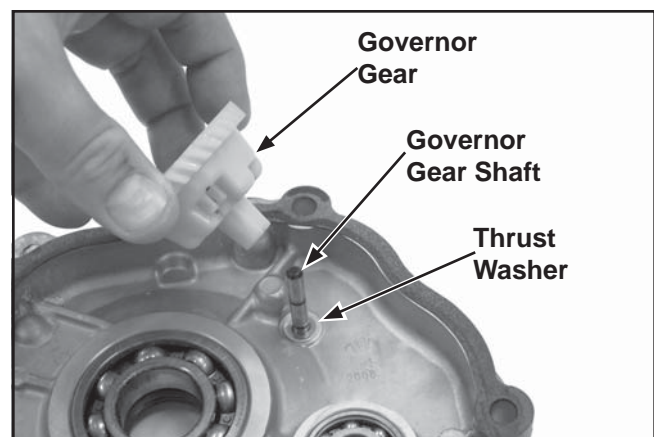

Figure 11-11. Install Governor Gear Assembly.
2. Place the thrust washer on the governor gear shaft in the closure plate. Push the governor gear onto the shaft. See Figure 11-11.